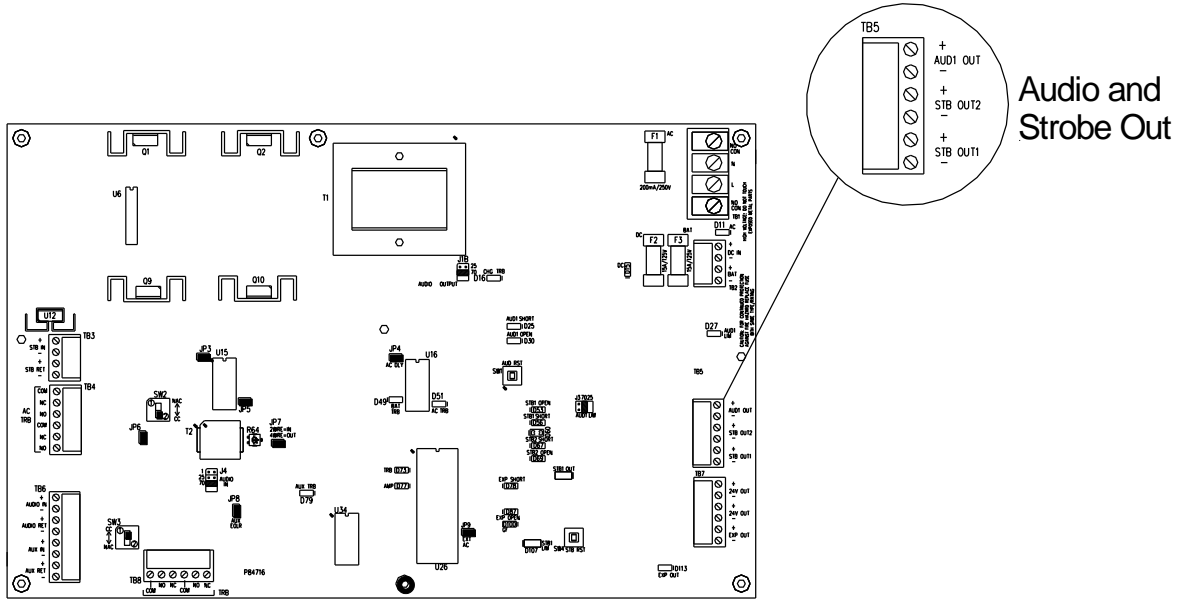
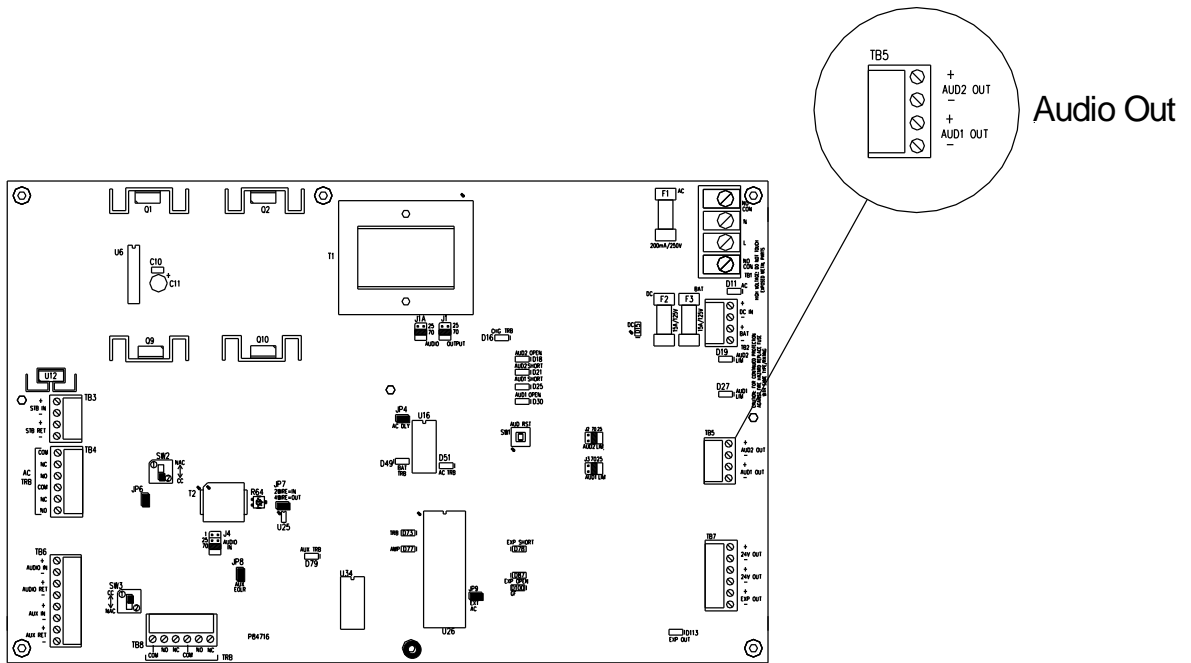

Figure 13 Audio and Strobe Output Connections (SPB-80/4)
Figure 14 Audio Output (SPB-160 and SPB-320) Connections
Figure 13 shows the audio and strobe output connections as they are on the SPB-80/4. Notice that there are two strobe outputs.
Figure 13 and Figure 14 are enlarged diagrams of the referred areas. The Audio Output(s) is supervised. A UL Listed 10K Ohm, 1/2W EOLR is required at the end of the circuit for proper supervision.
4. Connect Strobe Appliance circuit to STB Outputs (STB1 OUT, STB2 OUT) connections. Figure 13 is an enlarged diagram of the referred area. The strobe outputs are supervised. A UL Listed 10K Ohm, 1/2W EOLR is required at the end of the circuit for proper supervision.